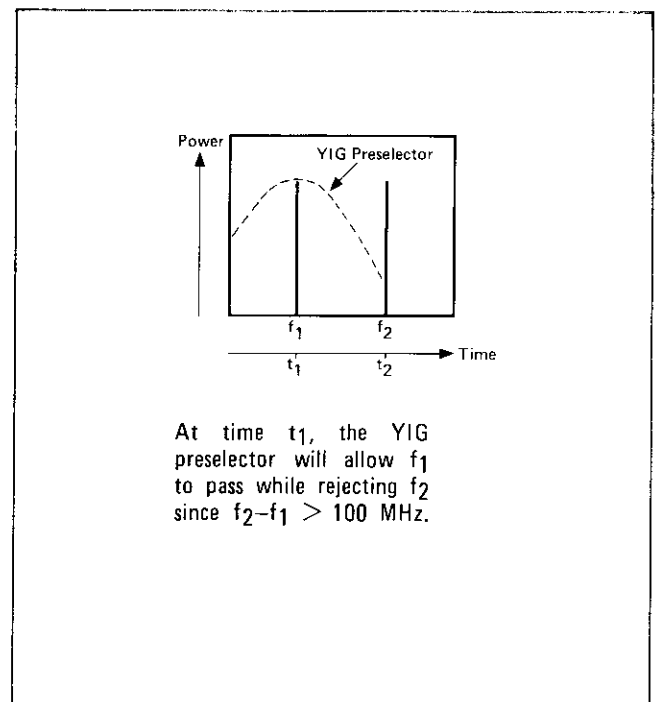

Figure 25. YIG Preselector Passband
1. Attach HP-IB cable from the HP-IB connector on the rear panel of the HP 8569B to the plotter rear panel HP-IB connector as shown in Figure 25.
In the preselected frequency bands (1.7 to 22 GHz) the tracking bandpass filter has a nominal 50 MHz bandwidth and a worst case rejection of >60 dB (60 dB – 18 to 22 GHz, 70 dB – 1.7 to 18 GHz). For signal separation ≥ 100 MHz, the tracking filter will allow only one signal to pass to the mixer while simultaneously rejecting the other signal. This is illustrated in Figure 25. Since only one signal is seen at the mixer at any instant of time, the third-order distortion products of the analyzer are significantly reduced. Also, for larger signal separation, the preselector has more rejection and hence the dynamic range is greater.